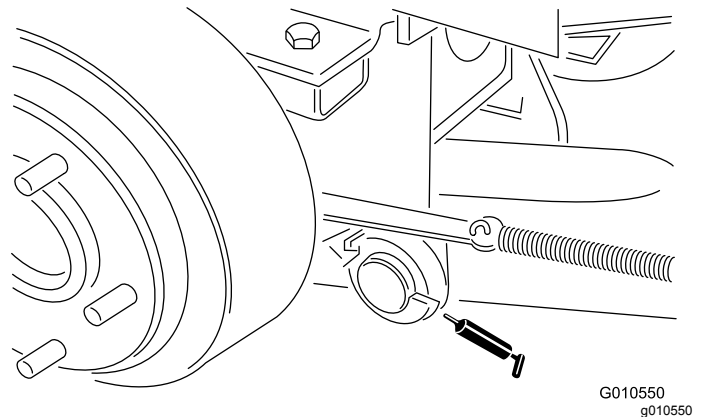

Figure 21
- Rear-lift arm pivots (Figure 21)